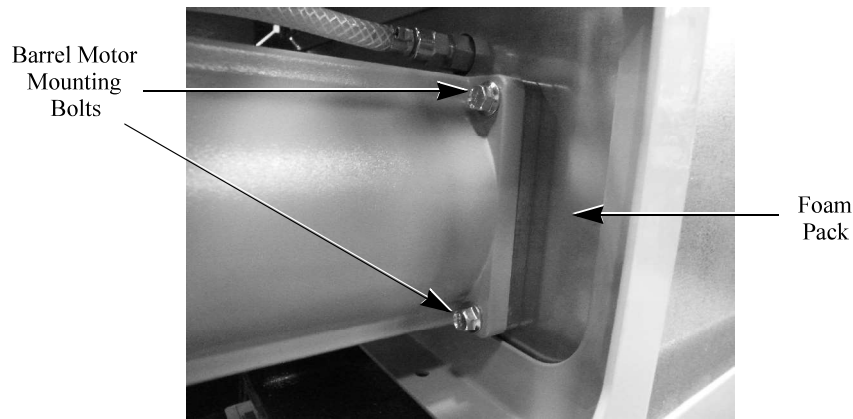

Figure 47. Side View of Motor Showing Two of the Four Mounting Bolts
The barrel motor does not require any special alignment when being replaced. It mounts on four (4) bolts. These bolts are screwed into threaded bosses in the foam pack barrel assembly, as shown in Figure 47. To replace a barrel motor, perform the procedure in Table 47